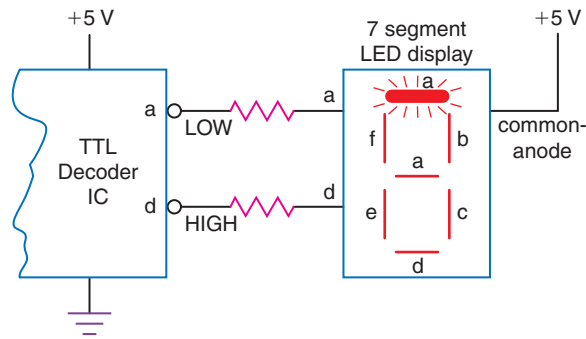

Fig. 5-19 TTL decoder IC driving common-anode 7-segment LED display.
38. Refer to Fig. 5-19. The TTL Decoder IC has _____ (active-HIGH, active-LOW) outputs.
39. Refer to Fig. 5-19. The TTL Decoder IC is said to be _____ (sinking current, sourcing current) as it lights segment *a* of the LED display.
40. Refer to Fig. 5-19. Segment *d* on the display is not glowing because it takes a _____ (HIGH, LOW) logic level at output *d* of the IC to light the LED.